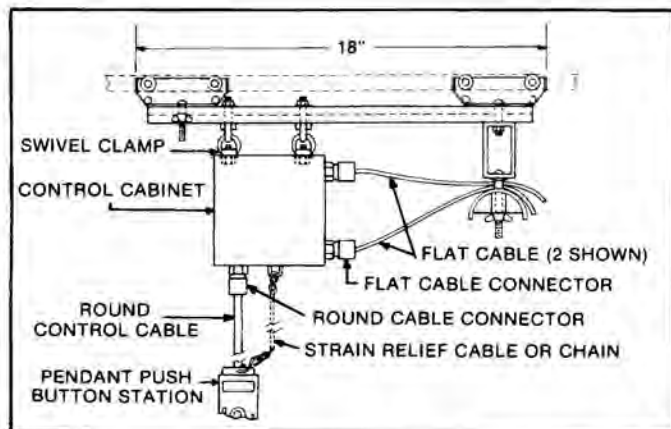

FIGURE 47
- 821.203 Pendant support trolley: Consists of two 4-wheel trolleys, loadbar, cable saddle, and a junction box that supports the pendant control unit. Refer to Figure 47.